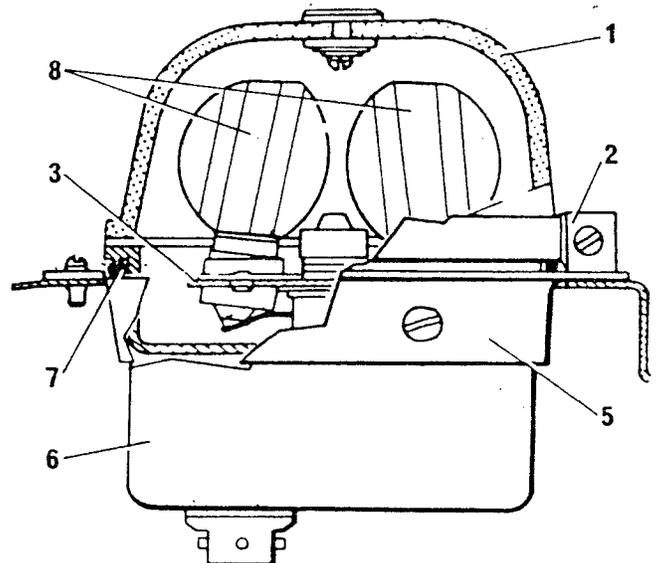

Figure 6
(2) ANTI-COLLISION LIGHT (Figure 6)